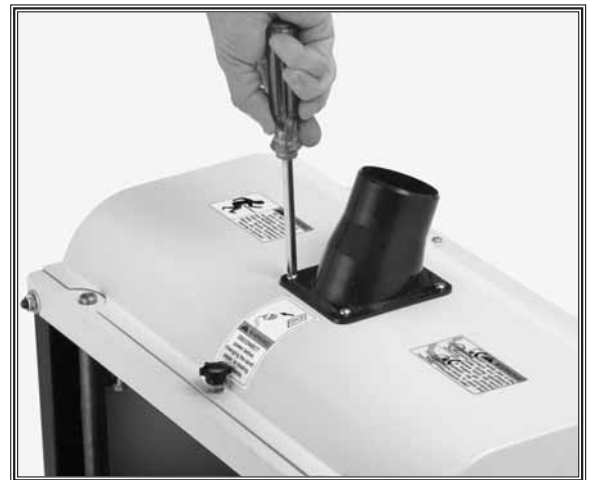

Figure 6. Dust port installation.
2. Place the 2 1/2" dust port over the top cover mounting holes and secure with the Phillips head screws removed in **Step 1** as shown in **Figure 6**.